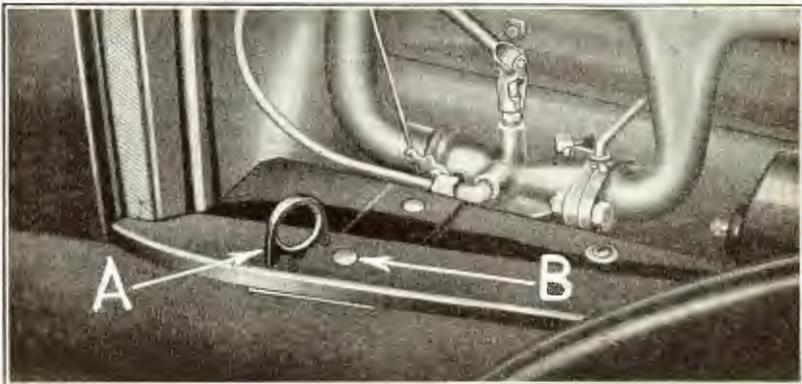

Fig. 543
- 1178 Withdraw cotter pin from end of rear hood clip; hood clip washer, and spring can then be lifted off and hood clip (see "A" Fig. 543) withdrawn.
- 1179 Run off nut on end of hood block bolt (see "B" Fig. 543) and withdraw bolt.
- 1186 Insert hood block bolt (see "B" Fig. 543) through hood block, support and bracket. Place a lockwasher over end of bolt and run down nut but do not tighten until all dust shield bolts have been entered.
- 1187 Insert hood clip (see "A" Fig. 543) through hood block and support. Position hood clip spring and washer over end of clip, locking them in position by inserting a cotter key through end of clip.